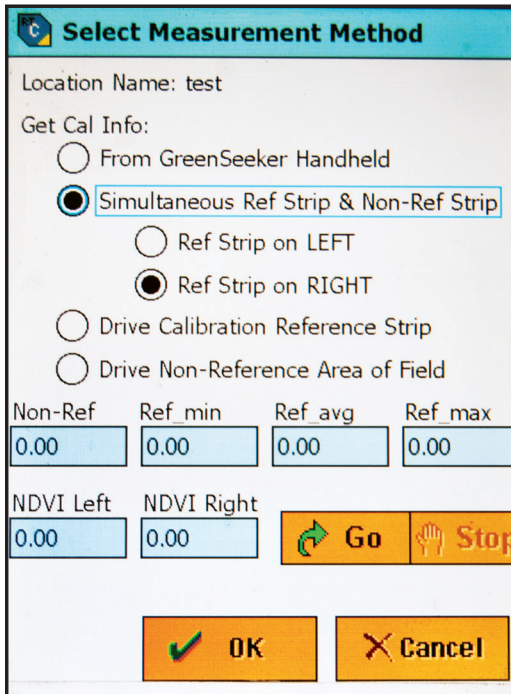

Figure 2. Selection of reference strip input method.
2. The next screen is the “Select Measurement Method” screen in figure 2. This screen requires the input of nitrogen-rich and nitrogen-poor strips that were applied at growth stage 25 for wheat and at planting for corn. First, select how you will “Get Cal Info” and which strip you are capturing. Press “Go” to capture data by moving over that area, and press “Stop” when you finish collecting data. “OK” will accept the reference strip data into the algorithm.